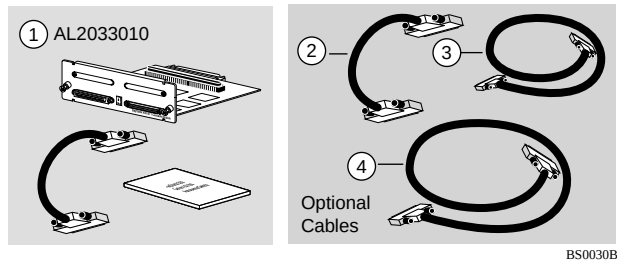

**Figure 2. Contents of Shipment**
Your BayStack 400-ST1 shipment includes the following items (Figure 2):
**Note:** For stacking three or more units, order the optional 1 meter (3.28 ft) or 3 meter (9.84 ft) cascade return cable (Figure 2).